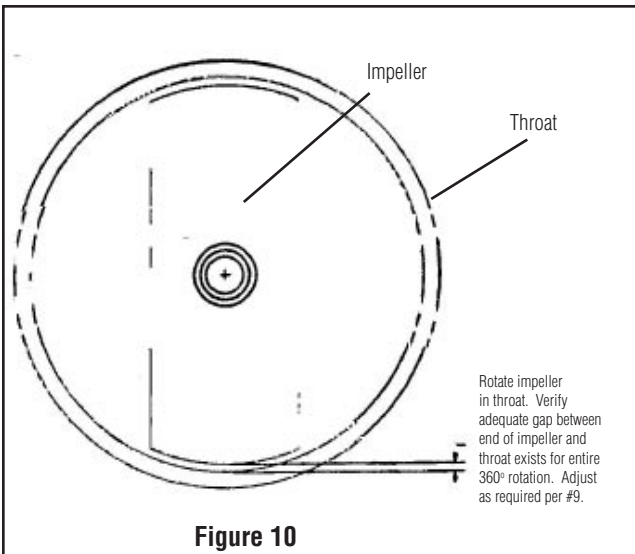

Figure 10
14. Refer to Figure 10. Inspect for adequate clearance between the impeller and the throat. If the impeller is not properly aligned, adjustment can be made by slightly loosening the lock nuts at the mounting ring and moving the motor unit for proper clearance. If this is not adequate, use of a different set of slots in the throat assembly may be required. Refer to step 8.